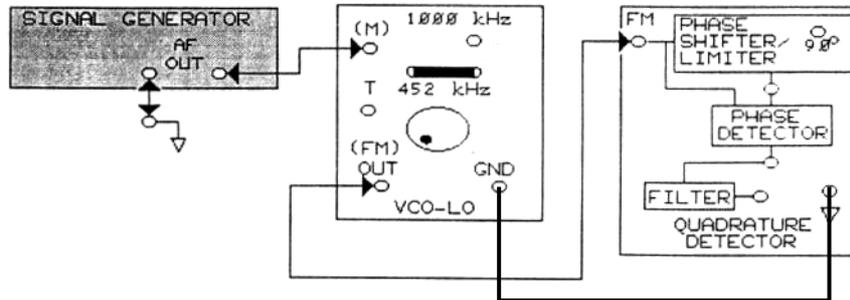

Figure 6-32.
22. Now, you will modulate the FM carrier with a 300 mV_{pk-pk}, 3 kHz message signal. Connect the FUNCTION GENERATOR to (M) on the VCO-LO circuit block (Figure 6-32).